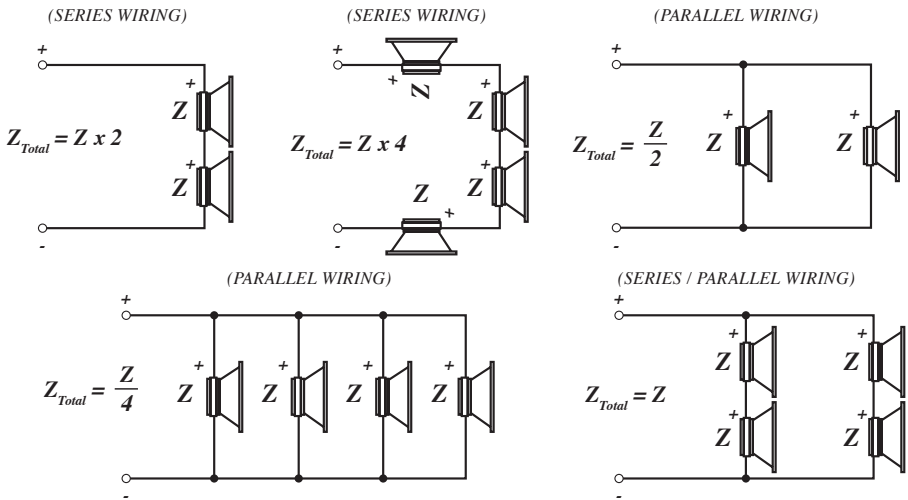

Fig. 4: Illustrating various wiring configurations and the formulae to calculate their load.
Any number of loudspeakers or systems can be connected to one amplifier provided they are correctly wired so that the final impedance presented to the amplifier is an exact match. Multiples of loudspeakers can be connected together by three different methods, Series, Parallel and a combination of the two, Series/Parallel. Impedance (Z) load, in Ohms, is calculated by using the following formulae (see fig. 4, P.14, for examples):